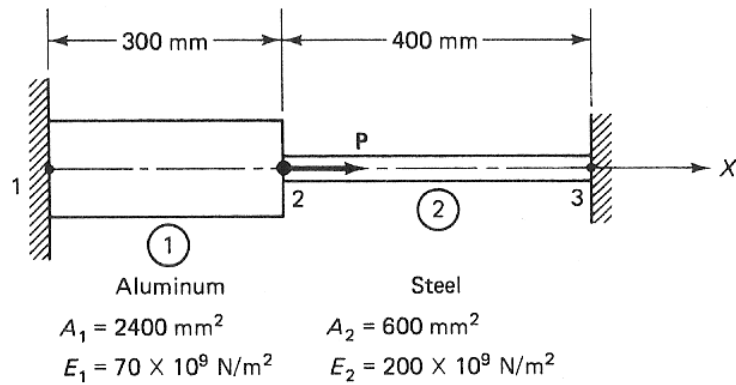

Fig.1
**(b)** Consider the bar shown in Fig. 1. An axial load of  $P = 200 \times 10^3 \text{ N}$  is applied as shown. Using the penalty approach for handling the boundary conditions, do the following. **06**